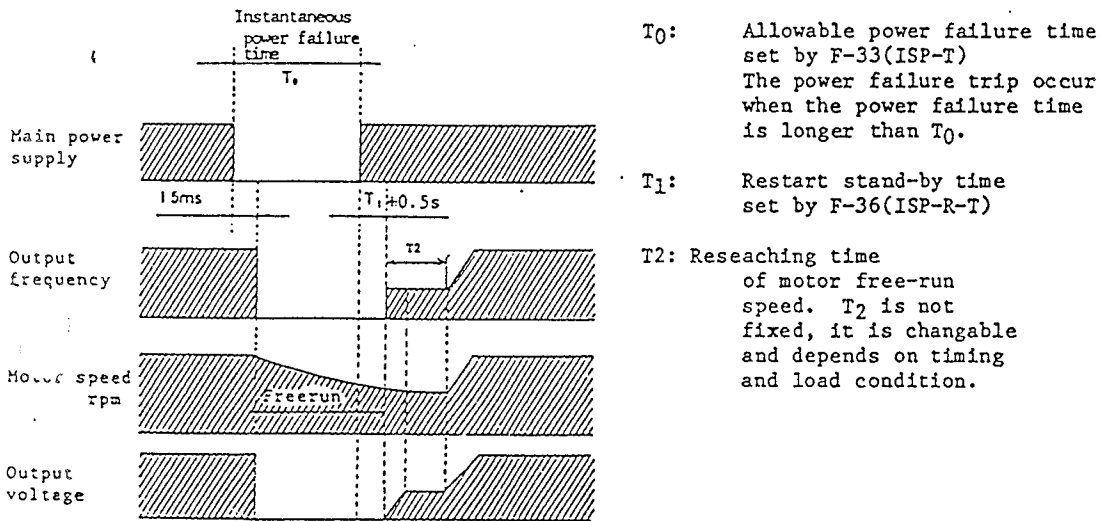

Figure 9-2 Timing Chart of Synchronized Restart
(1) Restart after instantaneous power failure, restart after trip
This is the function to restart the inverter automatically after instantaneous power failure. In the case of this restart mode, the inverter is restarted with synchronized speed, and possible to restart when the inverter trips due to overcurrent (OC), overvoltage (OV) and undervoltage (UV). The Figure 9-2 shows a time chart of performance when restart function after instantaneous power failure is performed.